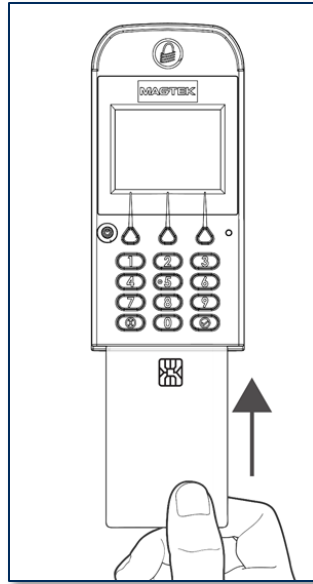

Figure 6-16 - Inserting a Chip Card
- 2) Locate the slot on the front of the device shown in **Figure 6-16**.